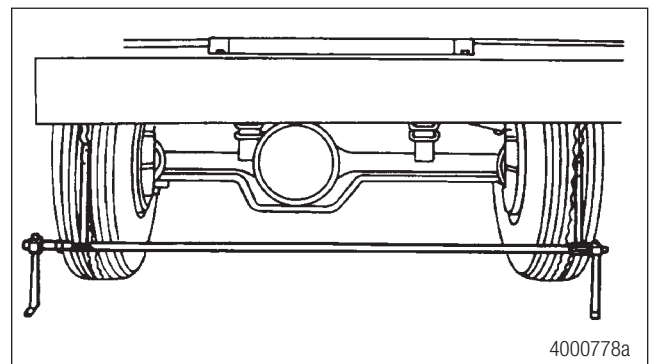

Figure 15.5
7. Place the trammel bar at the front of the tires. Adjust the pointer to line up with the scribe lines. Figure 15.5.